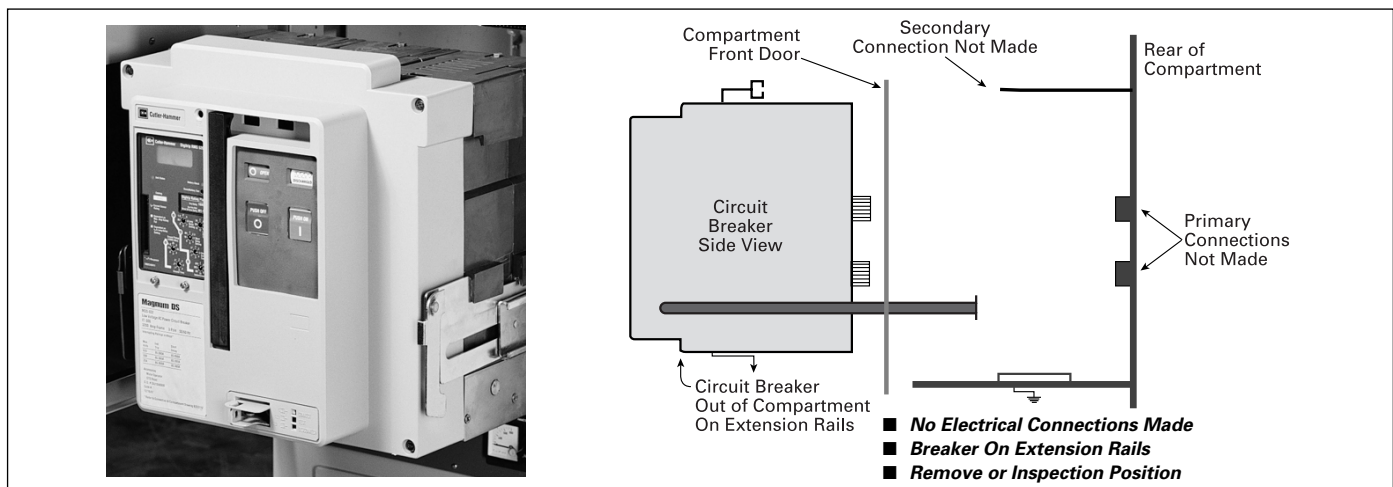

Figure 2-6 Remove Position
- REMOVE (Withdrawn) (Figure 2-6)